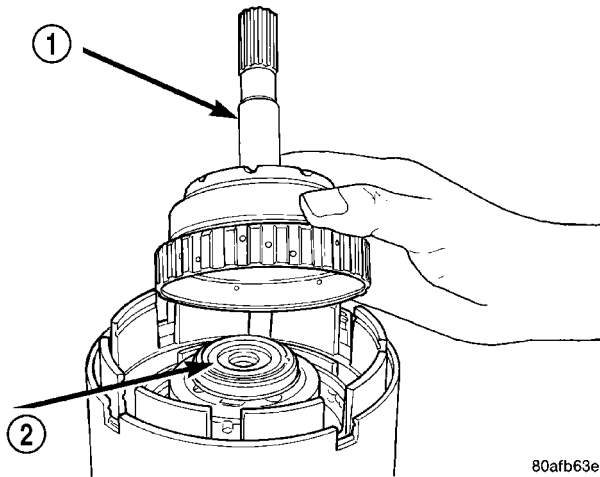

Fig. 274 Install Underdrive Shaft Assembly
(38) Install the underdrive shaft assembly (Fig. 274).